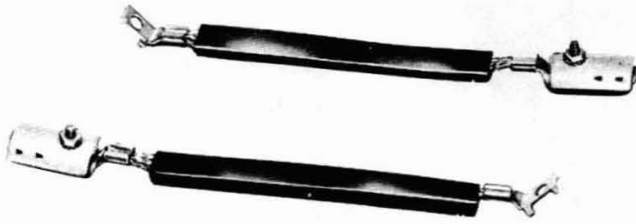

Fig. 4—Bond Strap Assembly
2.07 Figure 4 shows a bond strap assembly (Comcode No. 842353070) which is available for rehabilitation applications (see Section 644-203-101).